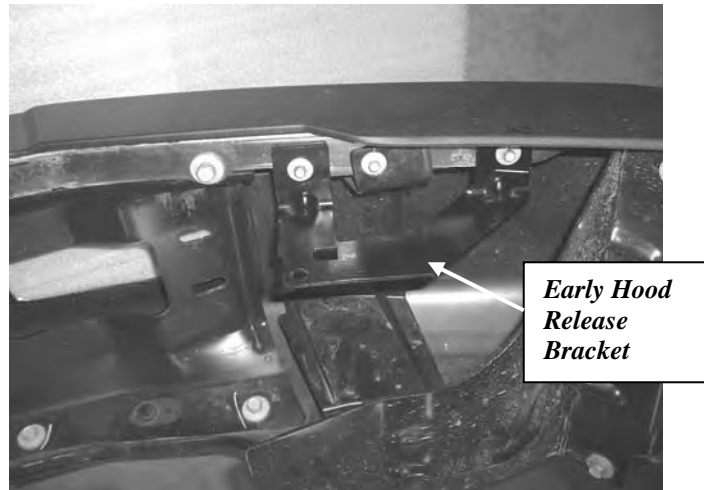

Figure 2 Early Hood Release Bracket
4. Early production trucks have the hood release lever and bracket attached to the back of the bumper. If you have one of these, remove the release lever from the bracket and remove the bracket from the bumper. See **Figure 2**